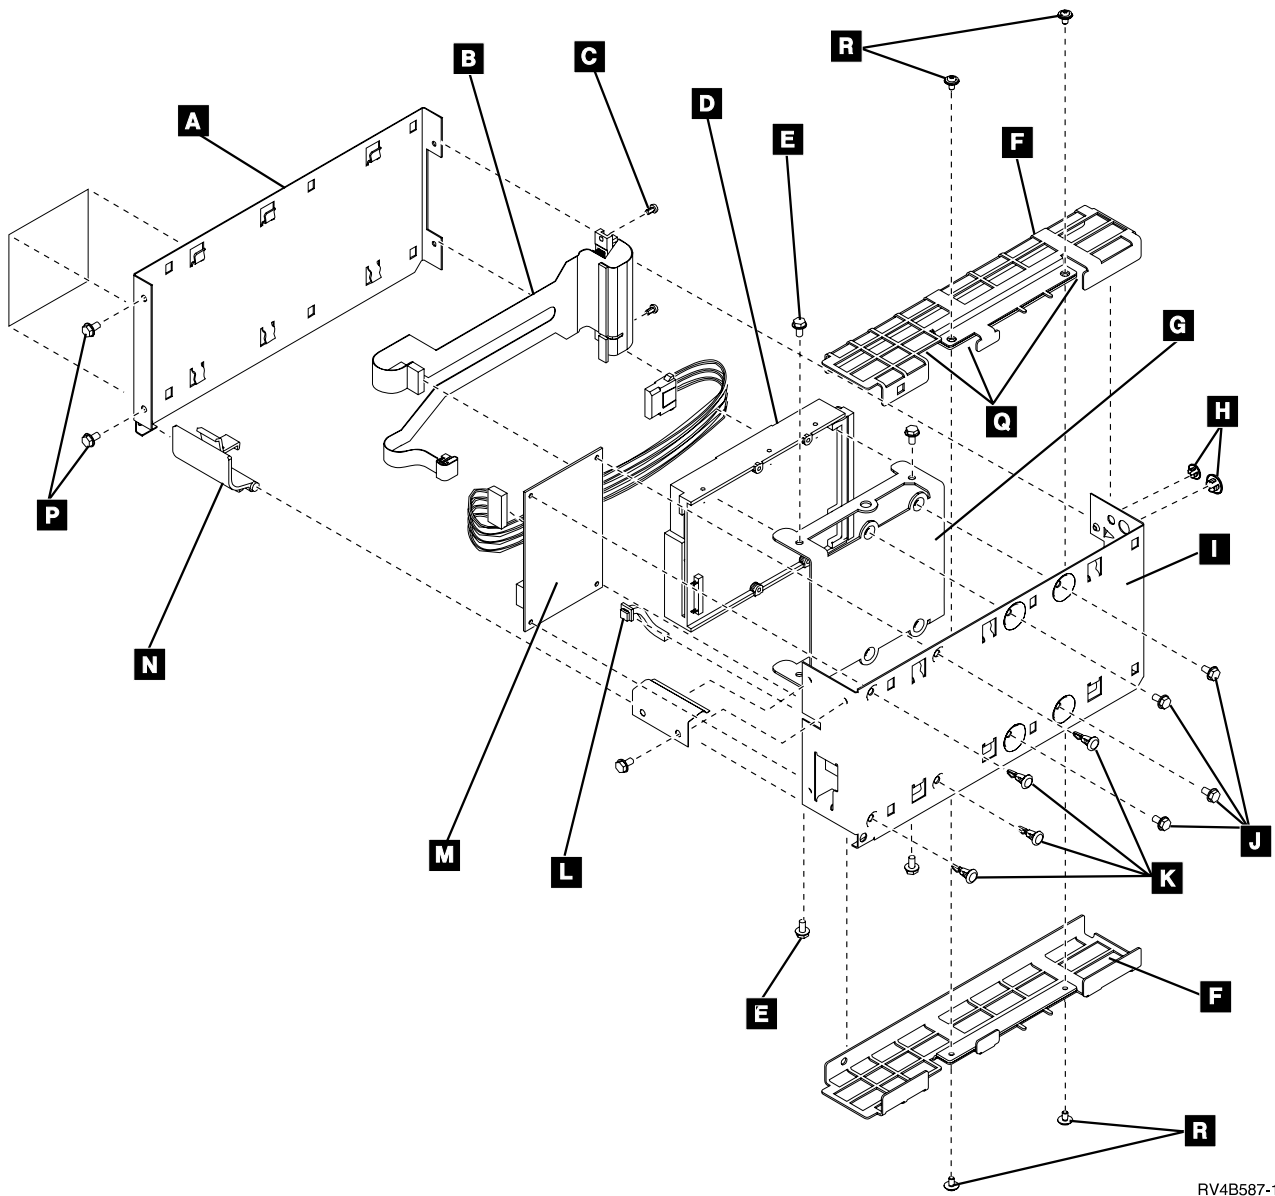

Figure 95. Disk unit holder assembly
3. Refer to Figure 95 for the following steps.
**Note:** The disk unit and flex cable may not be exactly the same type as shown in Figure 95 on page 900.
- e. Some disk units have a bracket installed on them. Refer to Figure 95 on page 900. Remove screws **H** and remove bracket **G**.
- Refer to Figure 95 on page 900 for the following steps.
- **Important:** Tighten and torque the screws in the following sequence (see Figure 95 on page 900).